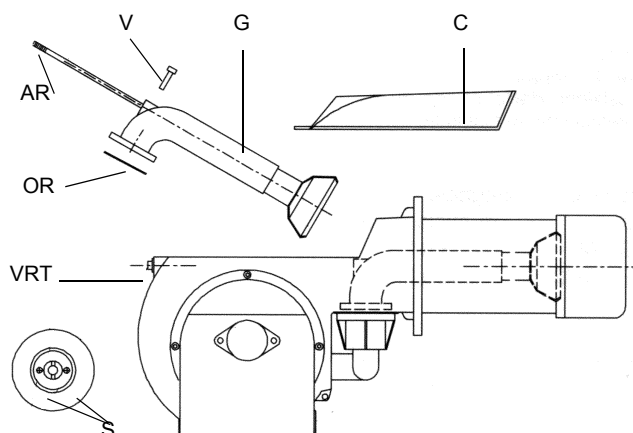

Fig. 35
- Remove, check and clean the combustion head (see Fig. 35)